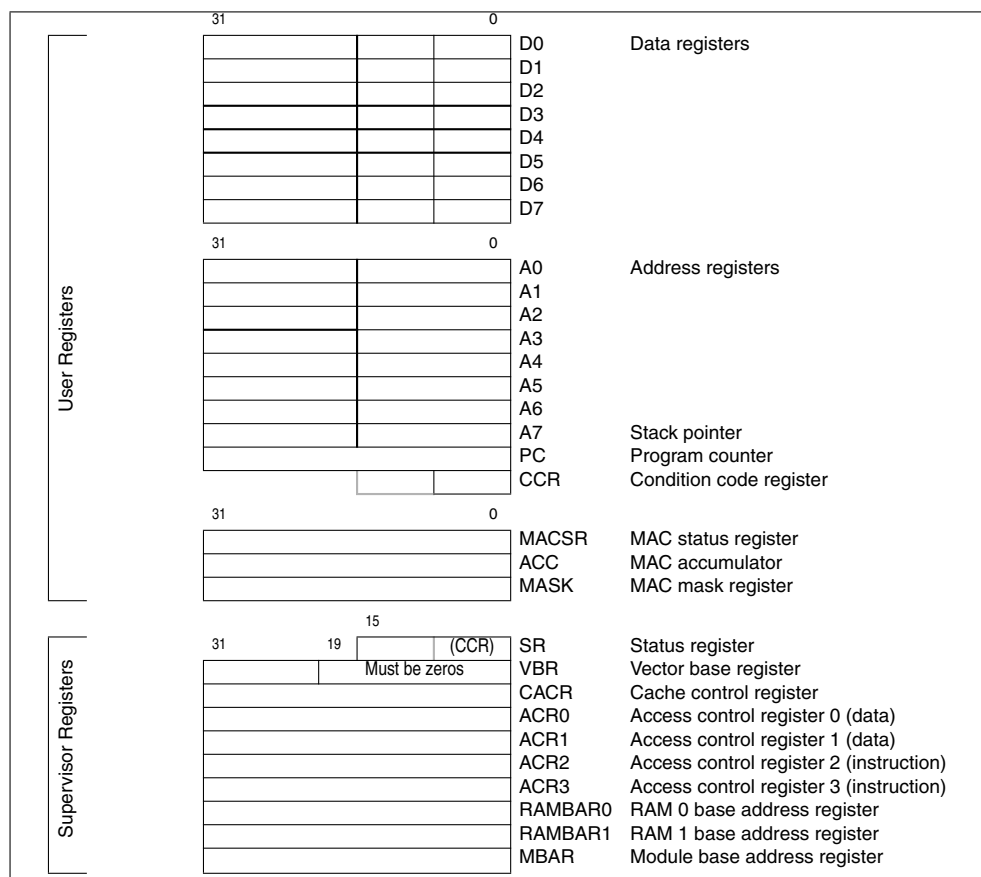

**Figure 2-3. ColdFire Programming Model**
As Figure 2-3 shows, the user programming model consists of the following registers:
The CCR, Figure 2-4, occupies SR[7–0], as shown in Figure 2-3. CCR[4–0] are indicator flags based on results generated by arithmetic operations.
Figure 2-3 shows the registers in the MAC portion of the user programming model. These registers are described as follows:
The MCF5407 supervisor programming model is shown in Figure 2-3. Typically, system programmers use the supervisor programming model to implement operating system functions and provide memory and I/O control. The supervisor programming model provides access to the user registers and additional supervisor registers, which include the upper byte of the status register (SR), the vector base register (VBR), and registers for configuring attributes of the address space connected to the Version 4 processor core. Most supervisor-level registers are accessed by using the MOVEC instruction with the control register definitions in Table 2-2.